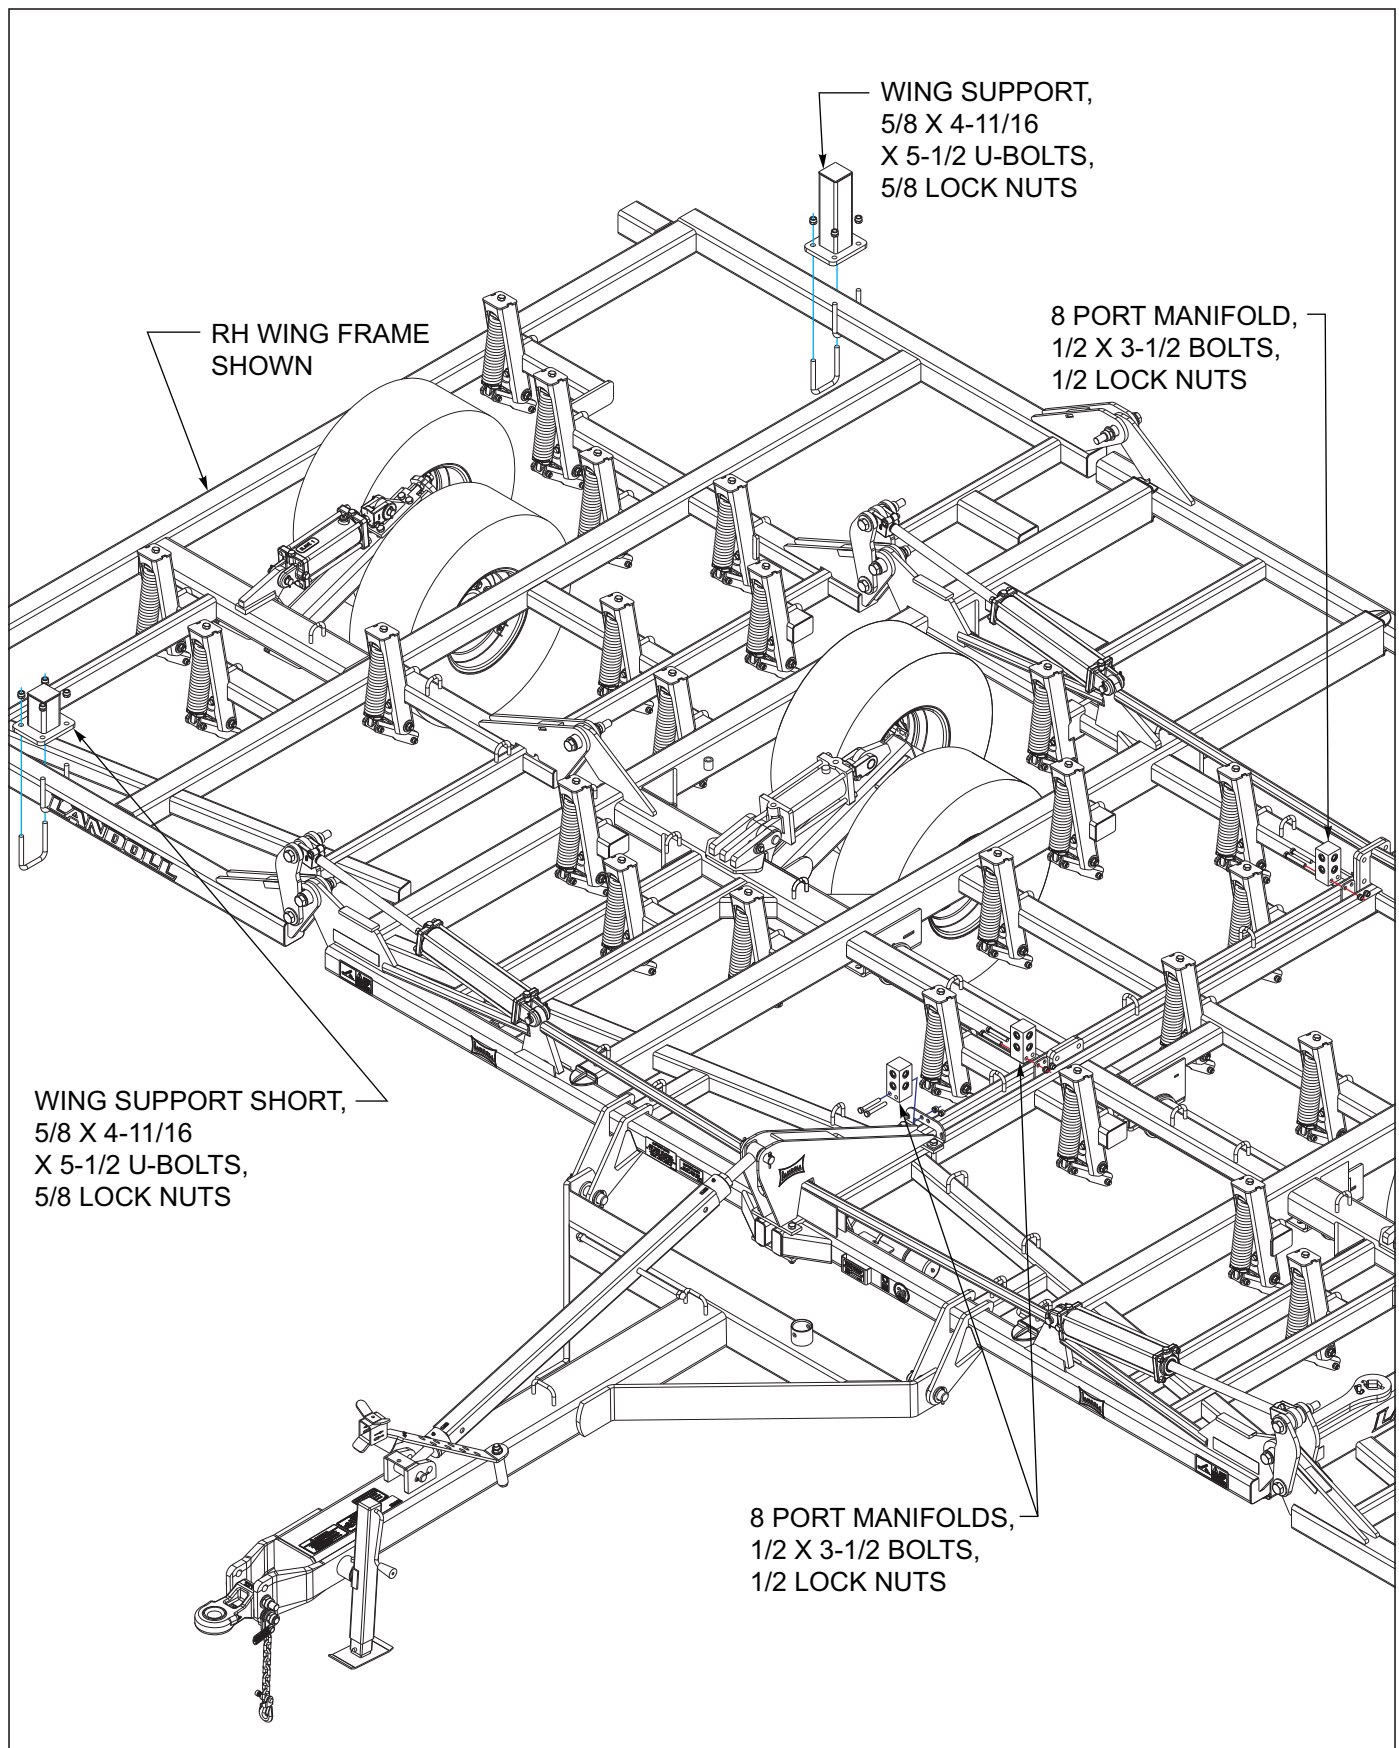
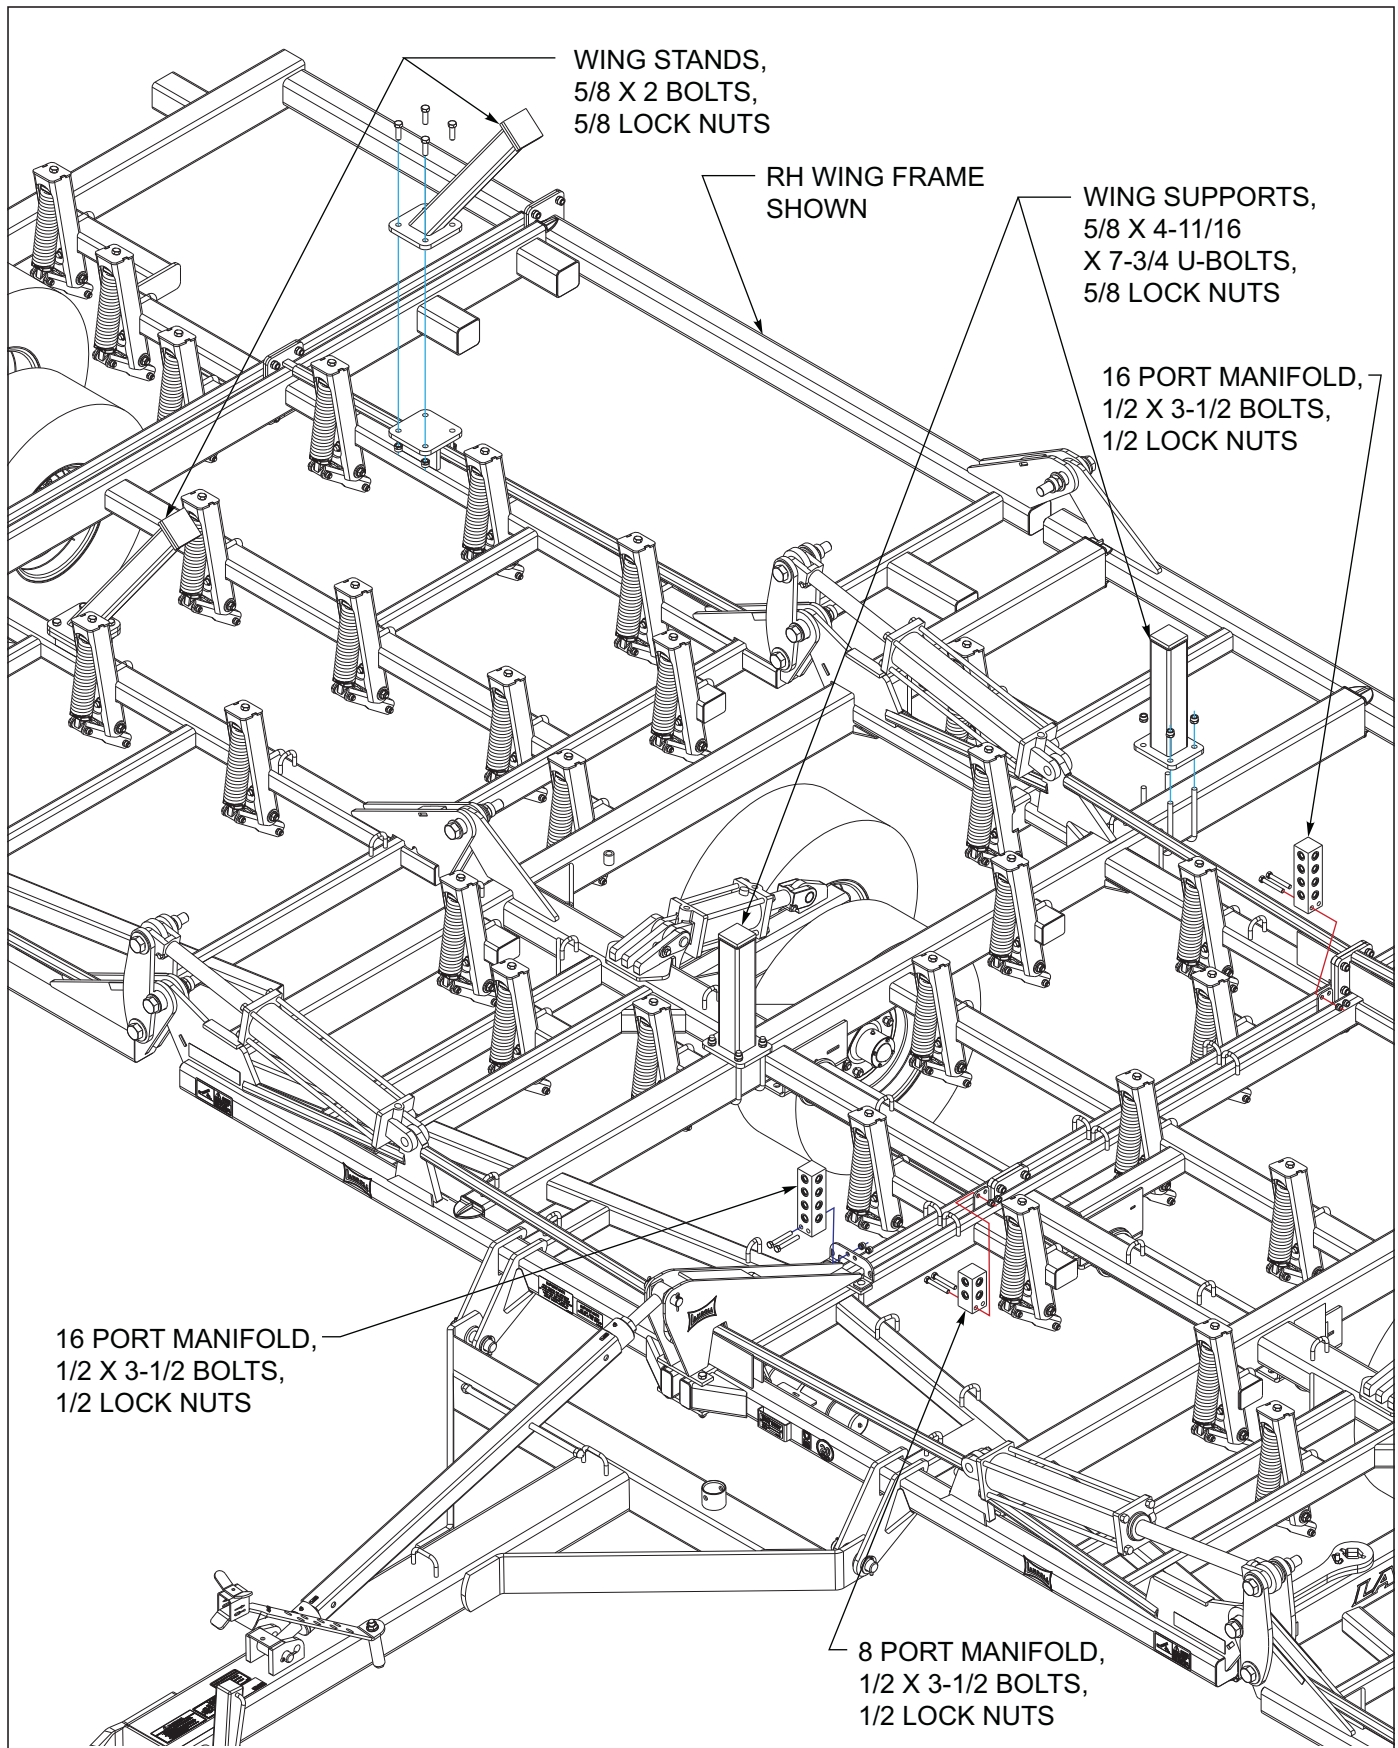
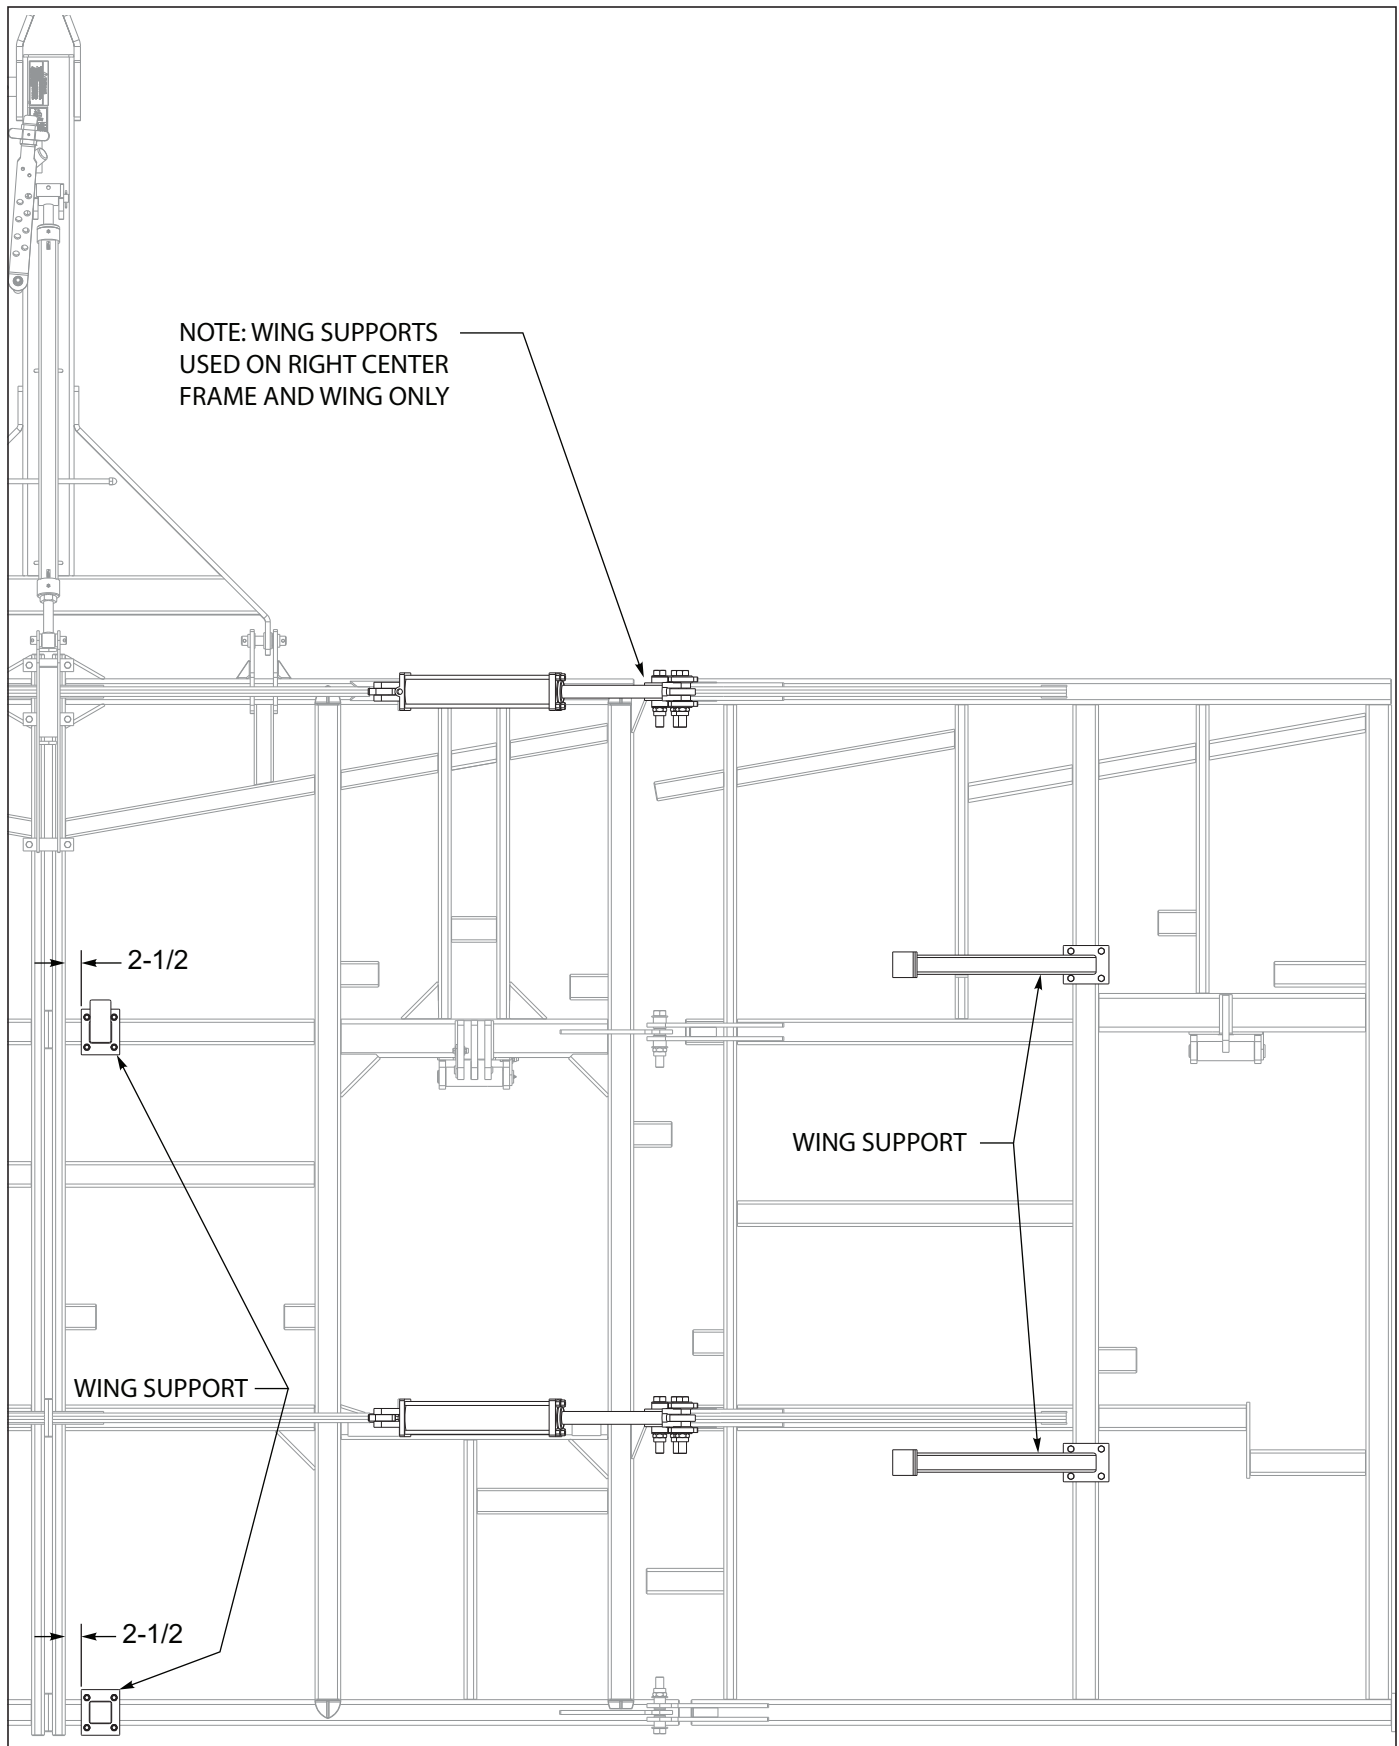

Figure 3-7: Wing Support Assembly 30'
Figure 3-9: Wing Support Assembly 40'
Figure 3-2: Wing Supports Placement 35' RH
1. **See Figure 3-7** for 30' models, assemble the wing supports to the RH and LH wing frames using 5/8 x 4-11/16 x 5-1/2 u-bolts and 5/8 lock nuts (**See “Wing Supports Placement 30' RH” on page 3-14.**).
3. **See Figure 3-9** for 40' models, assemble the wing supports to the RH center frame using 5/8 x 4-11/16 x 7-3/4 u-bolts and 5/8 lock nuts and to the RH wing frame using 5/8 x 2 bolts and 5/8 lock nuts (**See “Wing Supports Placement 40' RH” on page 3-16.**).
4. Install the 8 or 16 port manifolds to center frame using 1/2 x 3-1/2 bolts and 1/2 lock nuts. **See Figure 3-7** (877-30' model), **See Figures 3-2** (877-35' model), **See Figures 3-9** (877-40') for proper placement.
4. Install the 8 port manifold to front 2 hole plate of center frame using 1/2 x 3-1/2 bolts and 1/2 lock nuts *See Figures 3-7* through *3-9*.